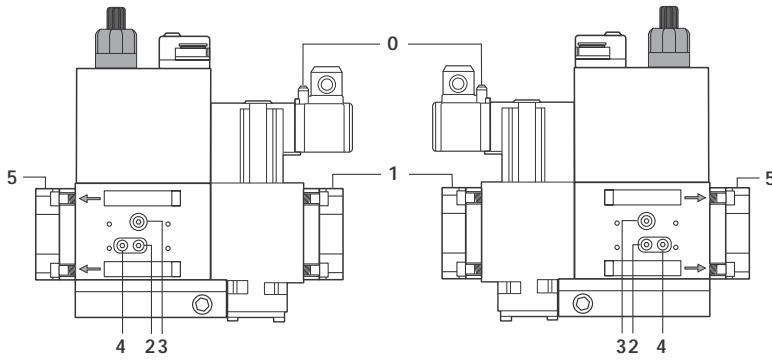
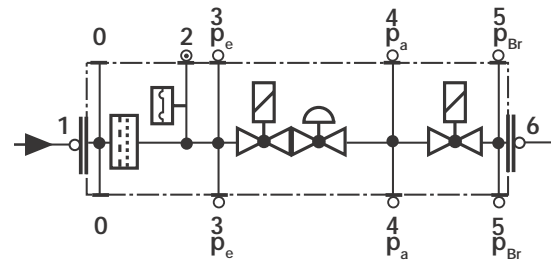

Fig. 33
Fig. 34
- Change the filter if the pressure difference between pressure connection 1 and 2 (Fig. 33-Fig. 34) $\Delta p > 10$ mbar.
- Change the filter if the pressure difference between pressure connection 1 and 2 (Fig. 33-Fig. 34) is twice as high compared to the last check.